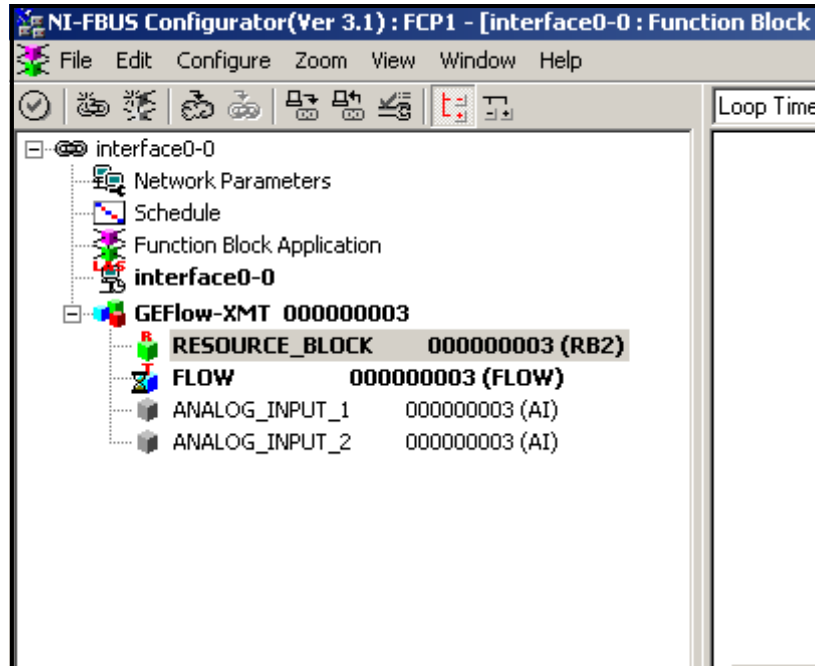

Figure 39: Configuration Utility Setup Example
Figure 39 below shows the Configuration Utility with a flowmeter on the network (Panametrics Flow-XMT).
1. Double click on the AI block for which you wish to set the units (ANALOG_INPUT_1 or ANALOG_INPUT_2 in the tree under GEFLOW-XMT; see Figure 39 on page 108).
1. Double click on the FLOW transducer block (in the tree under GEFlow-XMT; see Figure 39 on page 108).